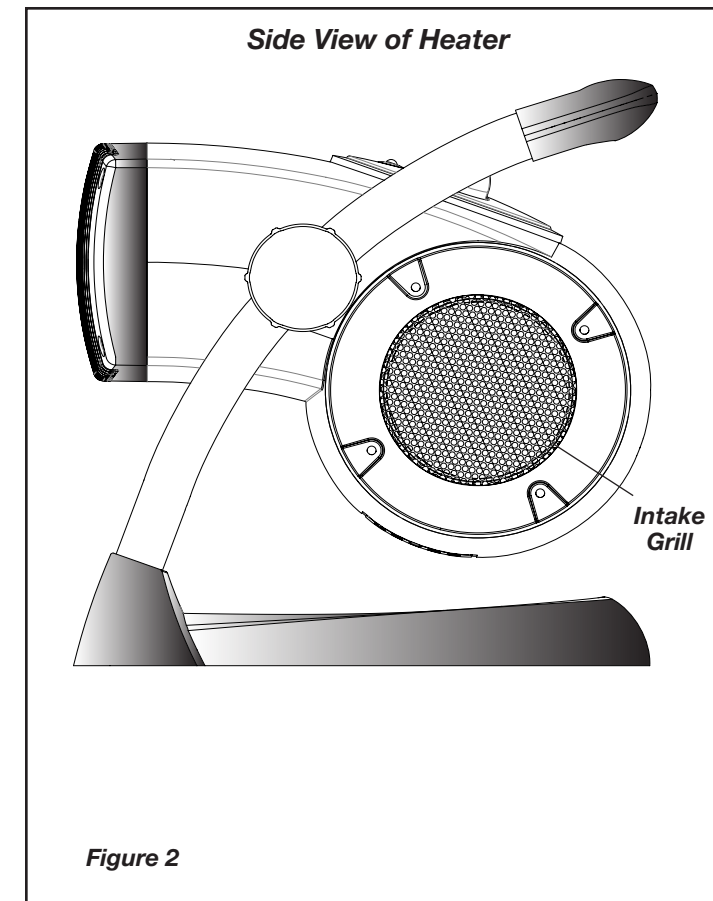

Figure 2
- Move the **Power Knob** to the desired heat setting. High Heat (1500W) is represented by the (II) and Low Heat by the (I).
- To adjust the angle of the Heater air flow, rotate the Heater body forward or backward to the desired position. (Figure 2)